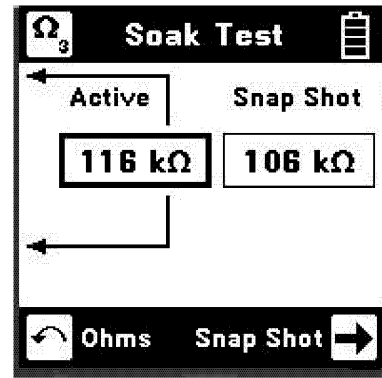

Figure 6. AST900 Soak Test Display
28. **900AST WIRE TESTING: SOAK TEST** (Figure 6).
- b. Press the Right Arrow  key at the lower right of the screen to access the Soak test function. (See Figure 6).